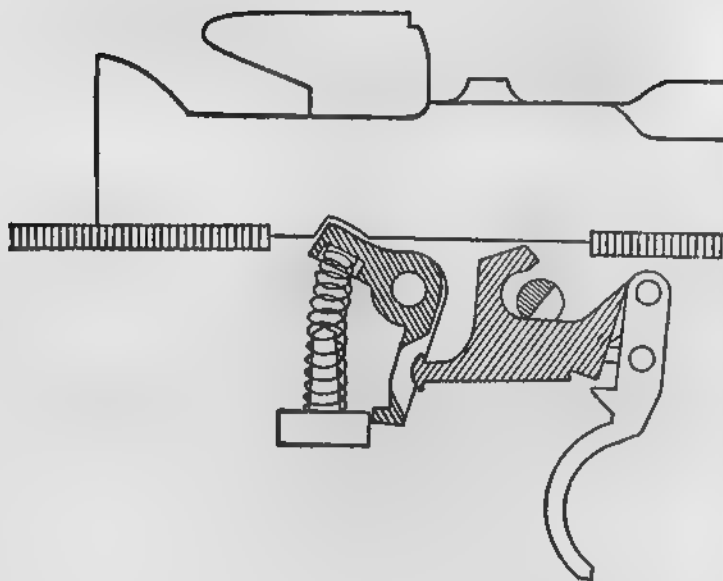

Fig 29.—The trigger pressed with the change lever at "S"
- (a) When the change lever is at "S", the shallow bevel in its stem allows the tripping lever to rise high enough to stop either of its hooks from touching the sear when you press the trigger (see Fig 29).